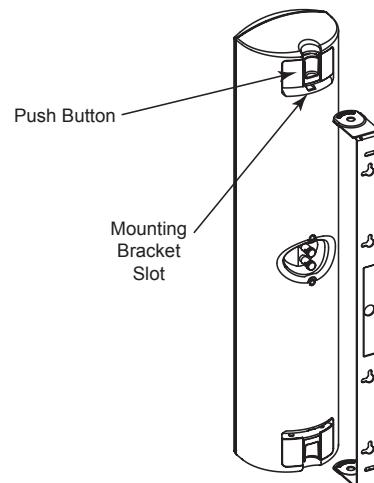

Figure 2
9. Attach the MPP to the mounting bracket by seating the MPP mounting slots, located on each end of the back of the MPP, into the mounting tabs of the bracket as shown in Figure 2. The tabs will “click” into place when the connection is made. Lightly pull forward and side to side on the MPP to ensure a solid connection has been made. To remove the MPP from the mounting bracket, depress both buttons at each end of the back of the MPP and pull the speaker off of the mounting bracket. The MPP should slide off easily. DO NOT force it. Make sure both buttons are depressed completely.